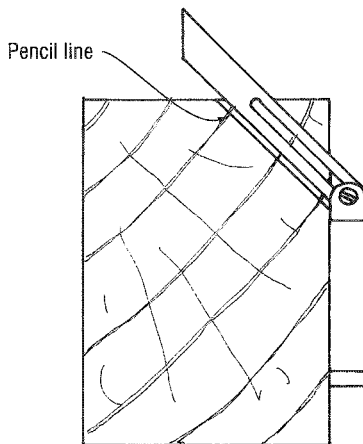
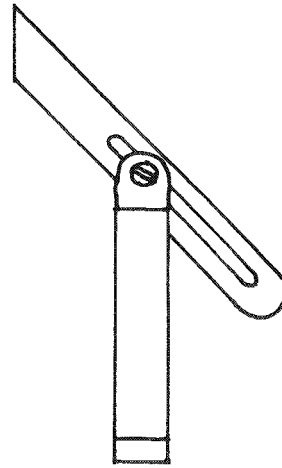

Fig. 3.40 Setting of sliding bevel.
Fig. 3.41 Wrongly set bevel.
2. Set a sliding bevel up to the required angle. This can be set from the setting out rod or directly off the marked out component (**Fig. 3.40**). Ensure that the blade of the bevel does not protrude beyond the handle or stock. This would allow inaccuracies when sitting it on the bed for fence setting (**Fig. 3.41**).